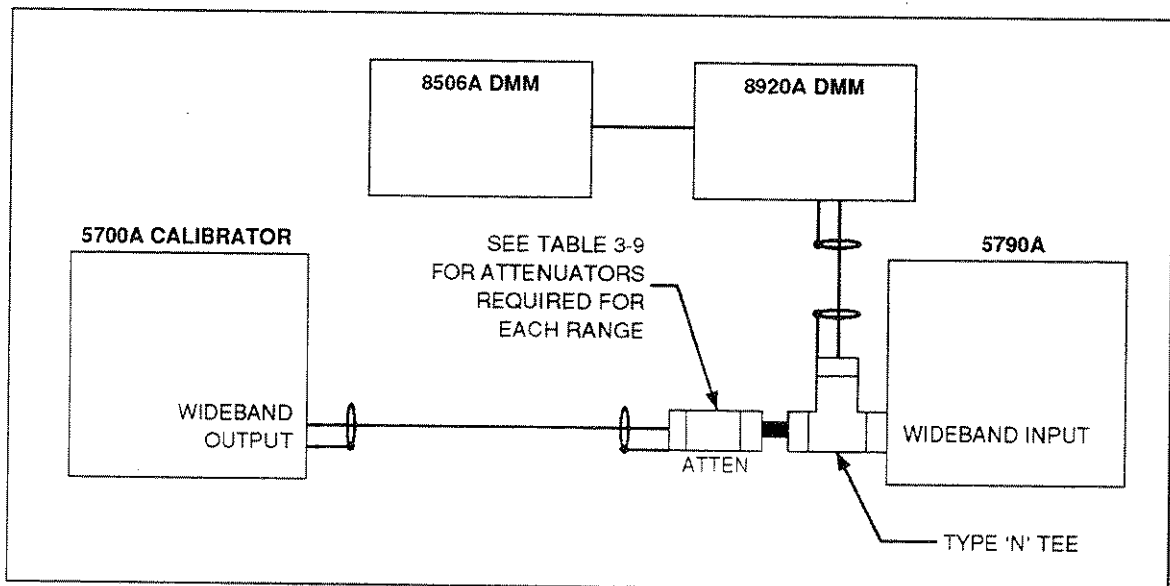

Figure 3-20. Wideband Verification Test Setup, Part 2
7. Move the input to the WIDEBAND input of the 5790A as shown in Figure 3-20. Remove the 50Ω termination but keep the 50 dB of attenuation.
7. Move the input to the WIDEBAND input of the 5790A as shown in Figure 3-20. Remove the 50Ω termination but keep the 60 dB of attenuation.
7. Move the input to the WIDEBAND input of the 5790A as shown in Figure 3-20. Remove the 50Ω termination but keep the 70 dB of attenuation.